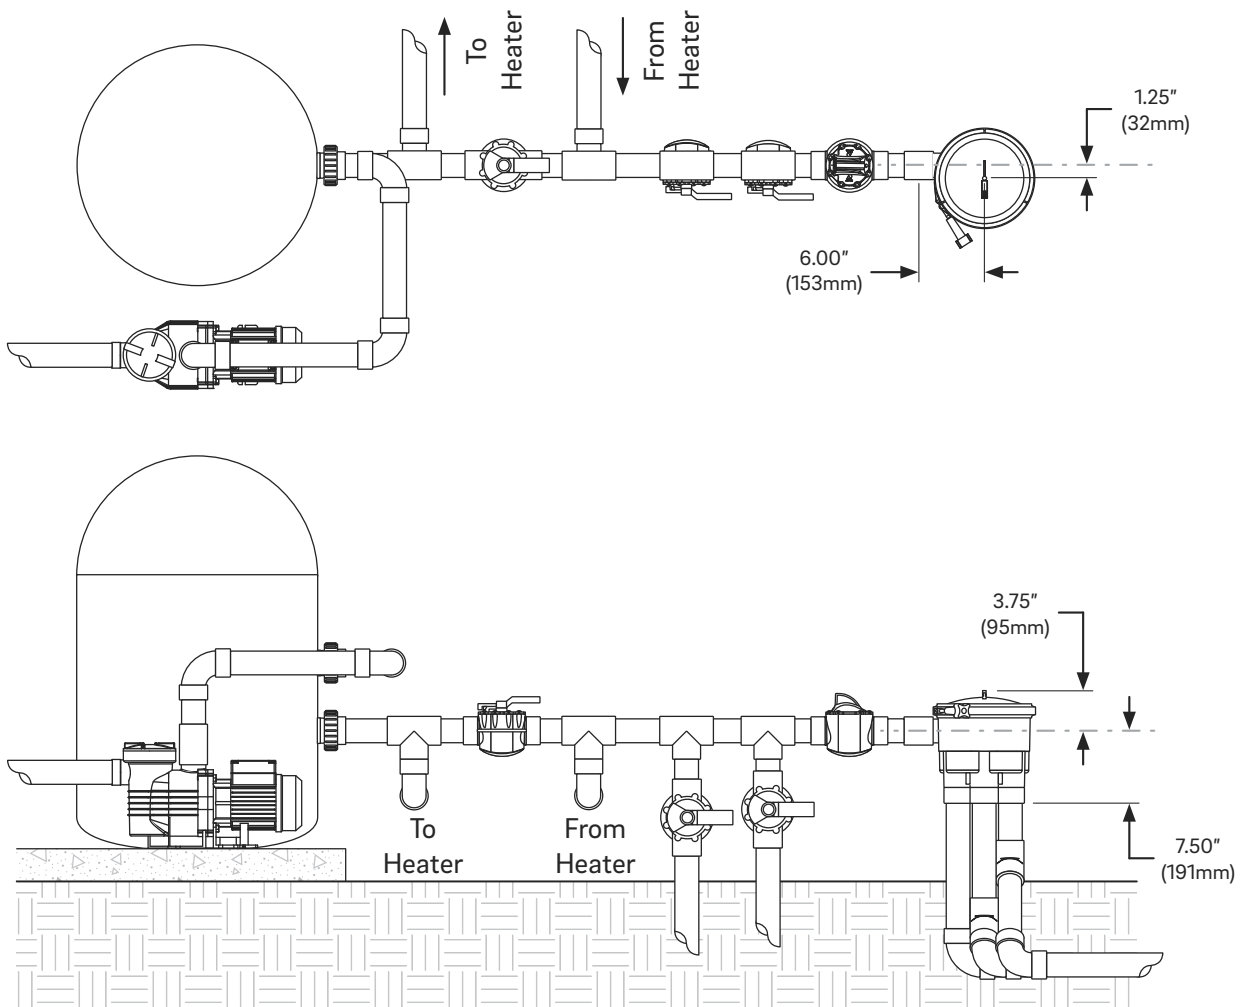

Figure 10
1. Determine the length of pipe that will be required to continue the feed line into the Wave valve, so that it remains at the same height as the rest of the equipment plumbing manifold and cut two pieces of 2" Schedule 40 PVC pipe to that length (Figure 10).